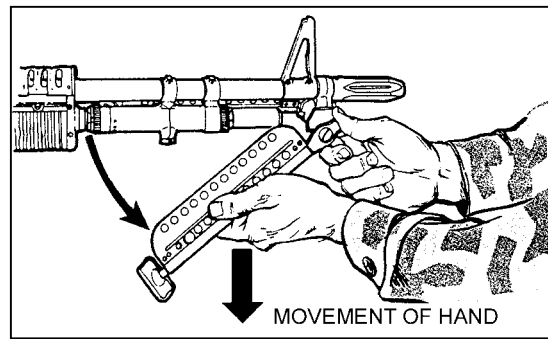

Figure 2-22. Lowering of the bipod.
a. To lower a bipod leg, the gunner pulls it to the rear (compressing the lock spring) and rotates it downward (Figure 2-22). The leg automatically locks when in the down position. To return the legs up, the gunner pulls down on the legs and rotates upward.